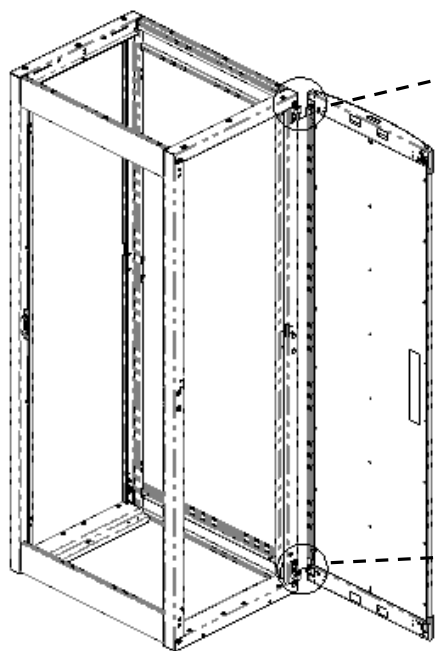

Fig. 2
3. Orient the front door perpendicular to the cabinet, with the upper part of the door tilted sideways slightly away from the cabinet (Fig. 2).